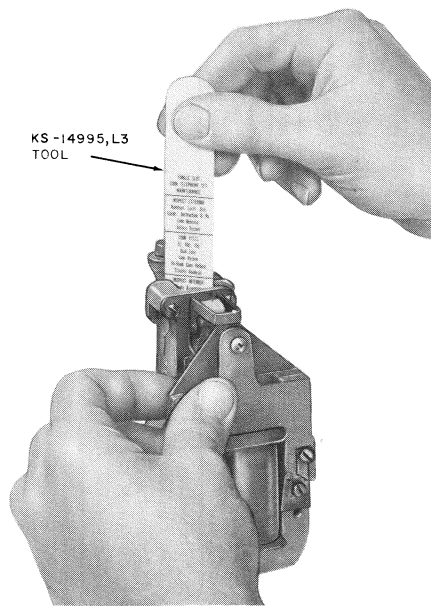

Fig. 38—Trap and Vane Release Test
- (2) Allow relay to slowly return to its nonoperate position.
- (3) Insert KS-14995, List 3 tool into hopper (Fig. 38). Apply firm downward pressure (approximately 1/2 pound) with tool on coin trap in hopper throat; but **DO NOT FORCE** down enough to bend or break parts.